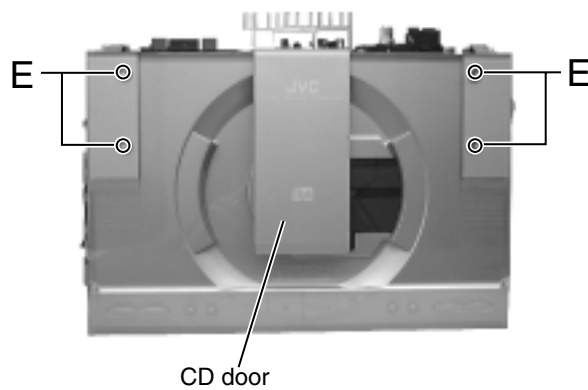

Fig.6
■Removing the CD mechanism base assembly (See Fig.6 to 13)